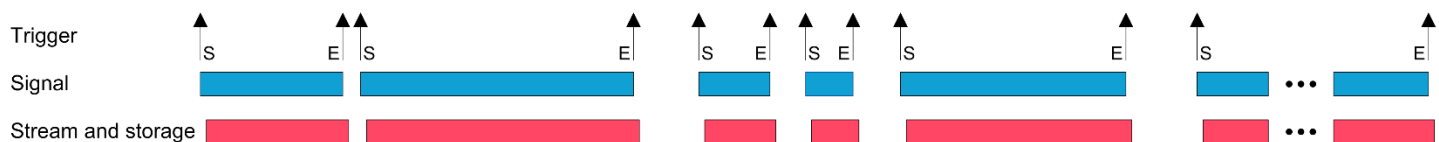

Figure 12. Variable segmented streaming with start and end triggers
A trigger event (start trigger) starts the data streaming with variable segment lengths. The start trigger indicates the start of a segment. The next proceeding trigger event (end trigger) indicates the end of the segment. The end trigger must occur after the minimum segment length. The next segment begins on the next trigger event (start trigger). Segment data is continuously streamed to the computer and stored to SSD. There can be infinite number of segments until SSD reaches capacity or the user manually initiates a stop. This type of streaming is used when multiple segments of variable segment lengths are performed and start (S) and end (E) triggers are provided as shown in Figure 12.